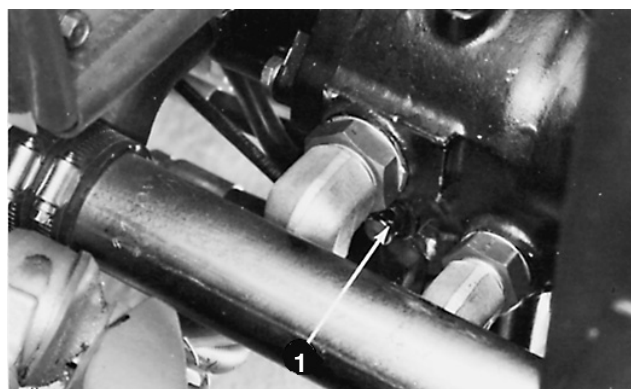

Figure 33
1. Bypass valve is located in left side of variable displacement pump (Fig. 33). Rotate the valve 1/2 to 1 turn counterclockwise to open and allow oil to by-pass internally. Because fluid is bypassed, the machine can be **slowly** moved without damaging the transmission.